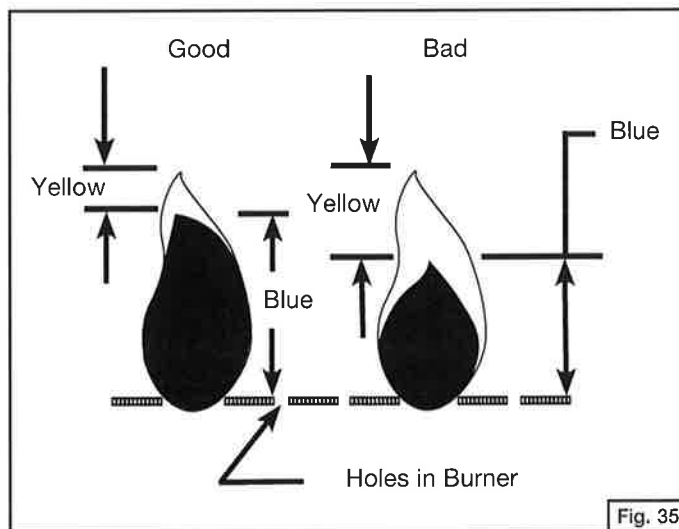

Fig. 35
- Flames should appear similar to the good flame shown in Fig. 35 and as follows: